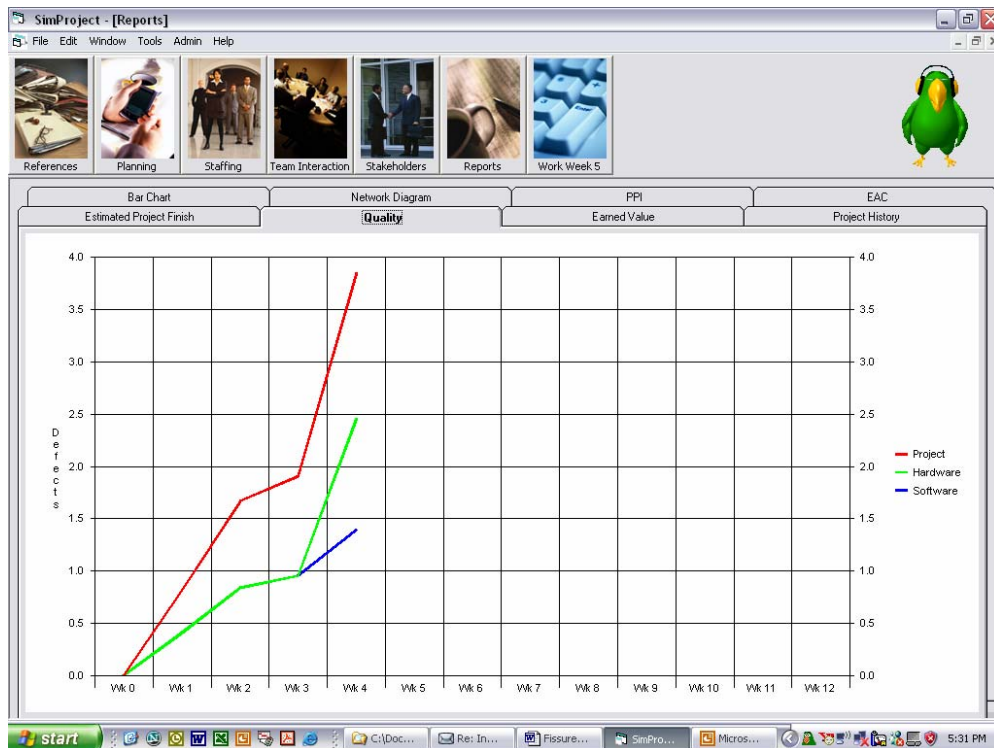

Figure 21 - Reports Screen – Quality (number of open defects)
- Quality – number of “open” defect reports (Figure 21)